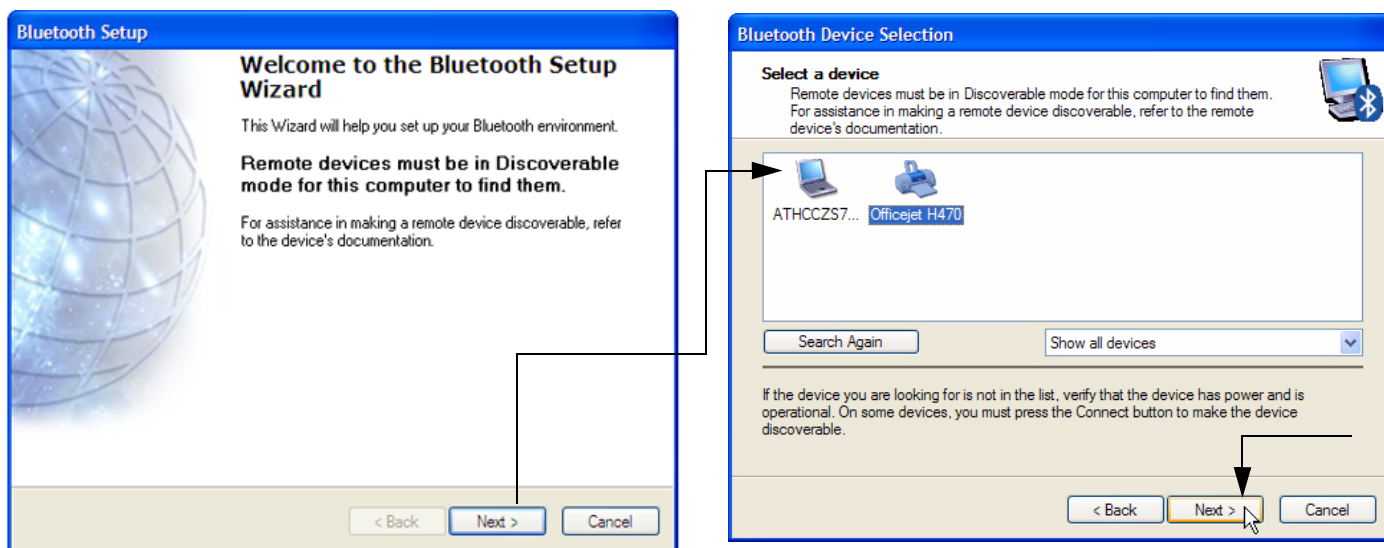

Figure 3-35 Bluetooth Setup
9.) In the "Bluetooth Setup" window (see: Figure 3-35 below) click on NEXT.